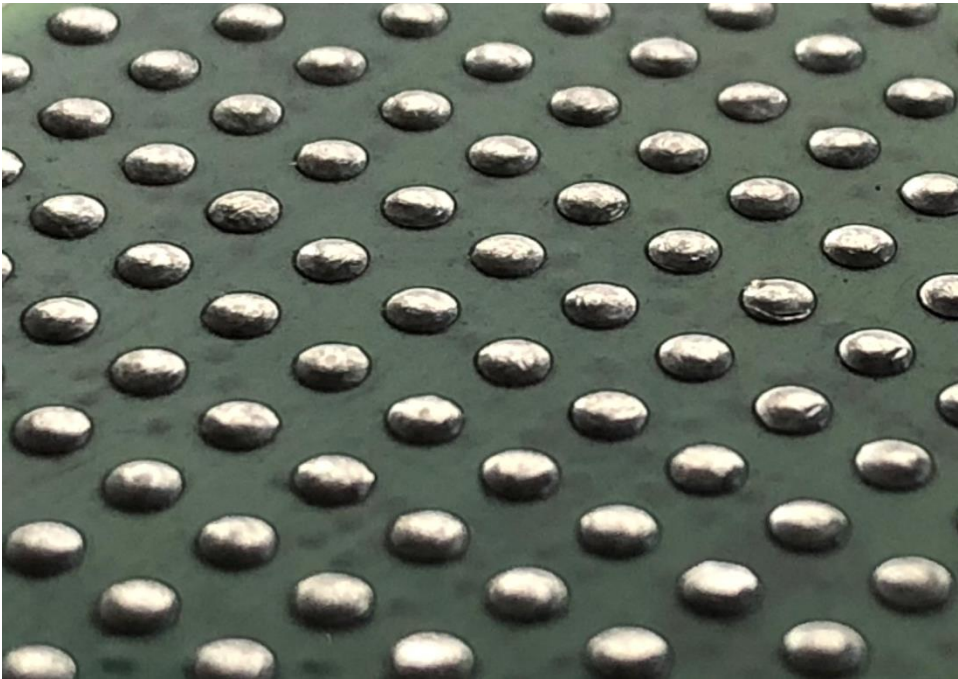

Figure 8: Fused Tin Grid Array bottom view
- **Fused Tin Grid Array (FTGA):** see Figure 8: Fused Tin Grid Array bottom view below